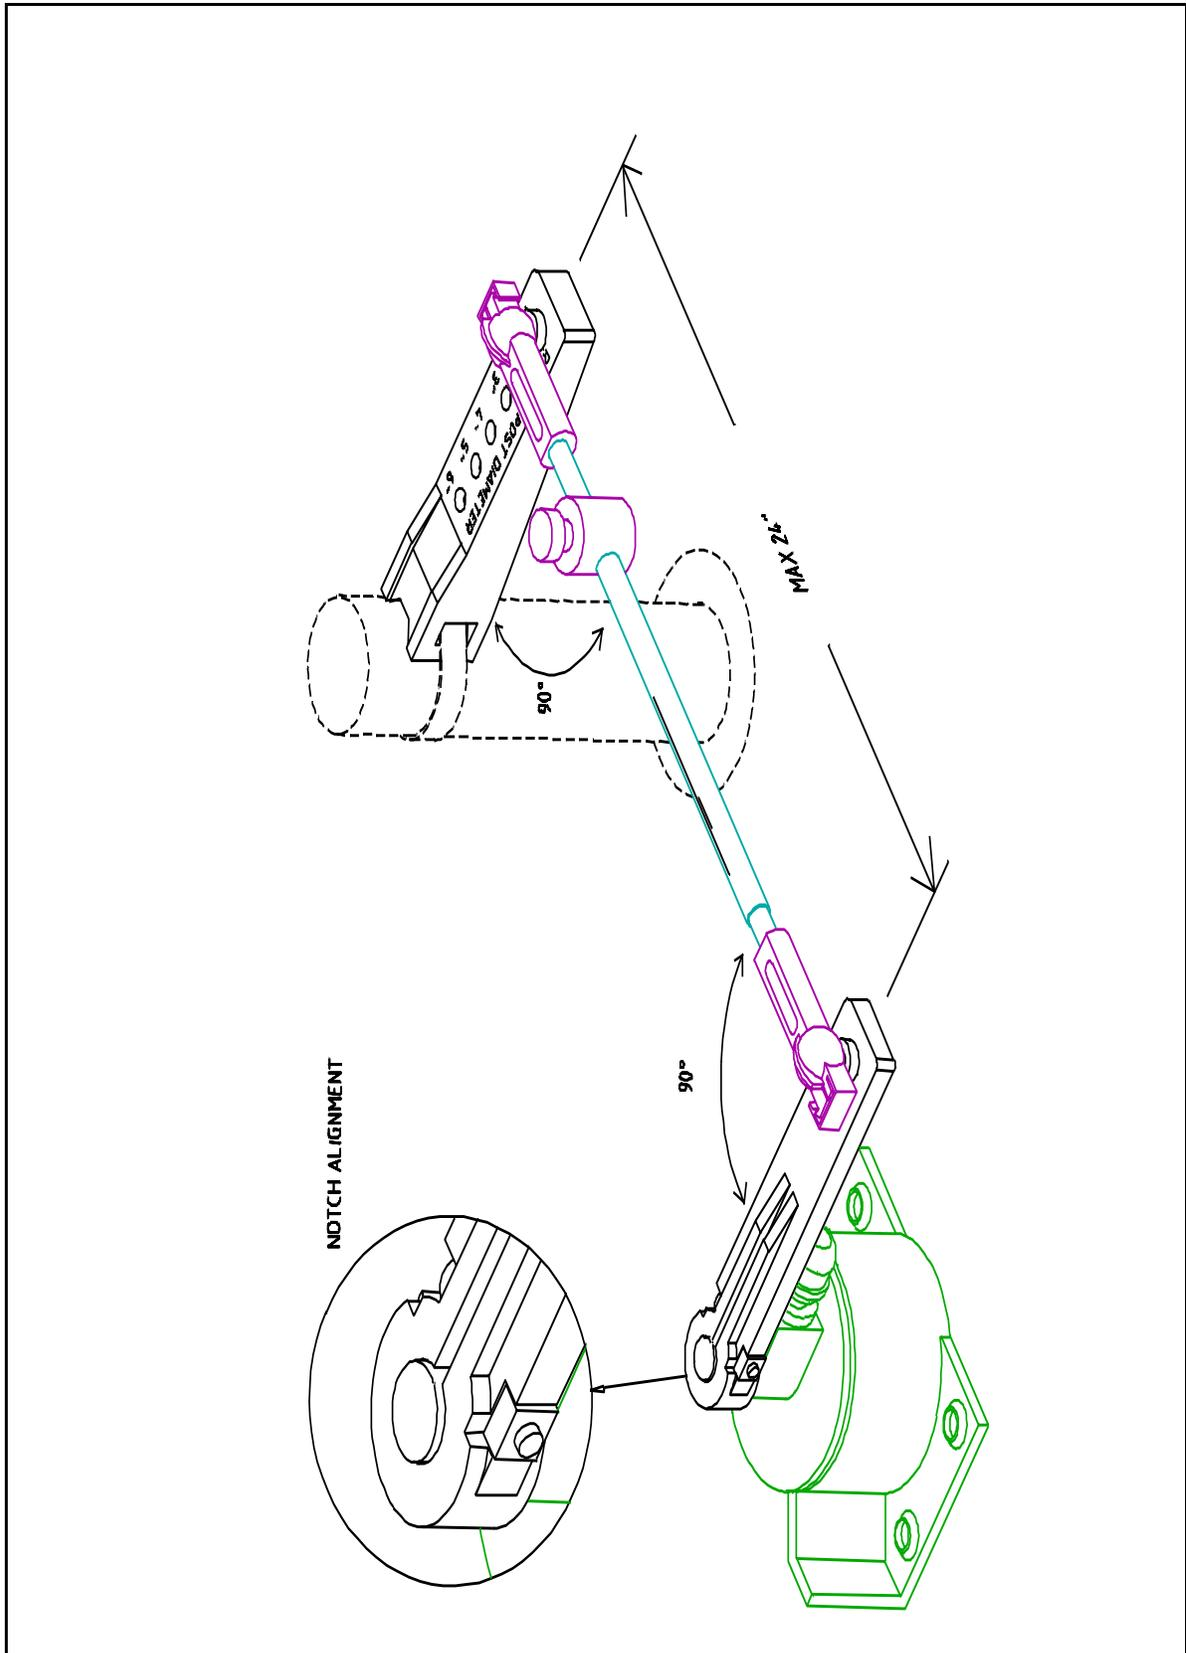

Figure 5 - Rudder Feedback correctly installed to rudder post
- drill a clearance hole for a 1/4 inch bolt if enough of the threads of the supplied ball joint will come through the tiller arm to permit the supplied nut to be threaded onto it. The rudder follower is centred when the arm is pointing away from the cable gland and is directly over the stainless rivet in the top cover. See Figure 5 for alignment details.
The distance between the centerline of the rudder post and the rudder follower must not exceed 24 inches. Make sure that the ball joints on the rudder arm and rudder follower arm are facing upwards as shown in 4. Snap the rod assembly onto the ball joints. Be sure to close the release clamps on each socket. Refer to Figure 2, Figure 4 or Figure 5 and adjust the length of the rod to get the correct geometry with the rudder dead ahead.